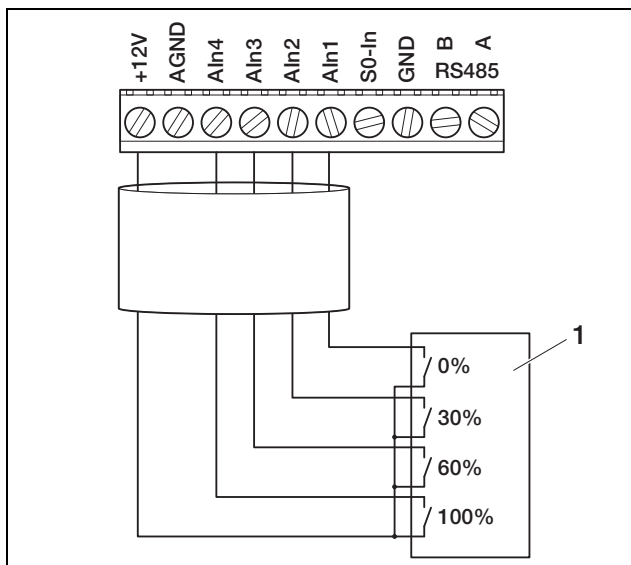

Fig. 48: Connecting the ripple control receiver to the inverter
- Connect the ripple control receiver lines in accordance with the connection assignment (figure 48 and table 9).